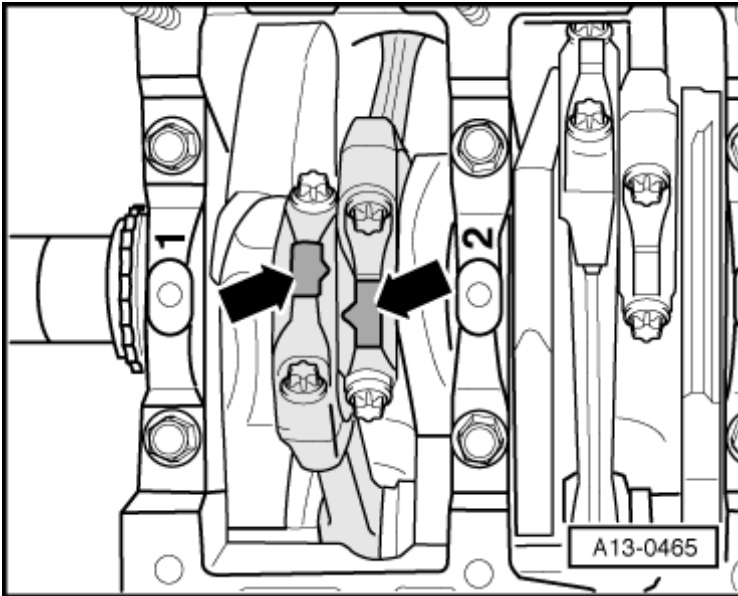

Fig. 12: Connecting Rod, Installed Location
- Installation position of connecting rod pairs, refer to **Fig. 12**